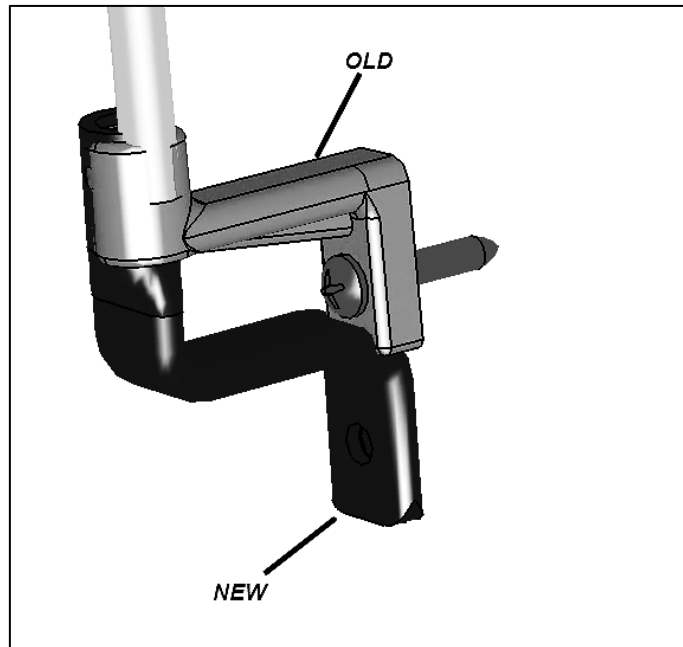

Figure 2: Location A, D and E
- 1) Remove existing plastic supports and replace them with #407650 metal supports supplied for this bulletin (Fig.2).
The anchor point for the new metal support will be located slightly lower (Fig.2).